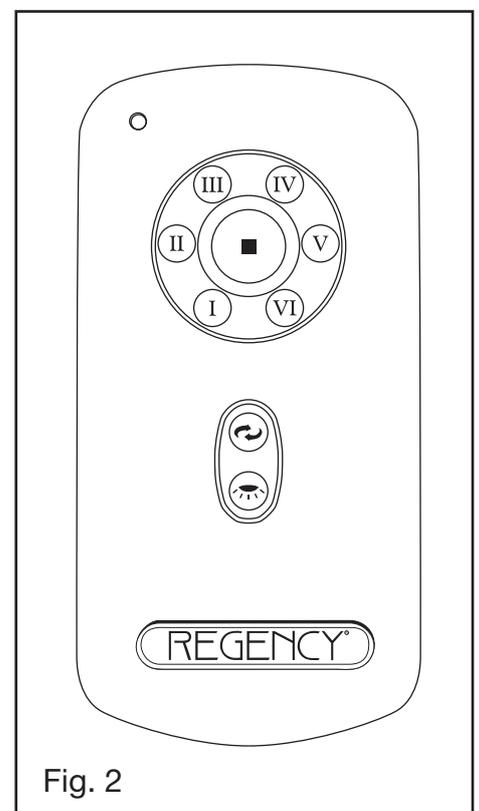

Fig. 2
4. Remove one of the three screws on the mounting plate located on the fan motor. Loosen the other 2 screws. (Do not remove) (Fig. 2)
5. While holding the LED light kit under your fan, make the polarized plug connections: (Fig. 2)
An UPWARD airflow moves warmer air off the ceiling area as shown in Figure 2. This allows you to set your heating unit on a cooler setting without affecting your comfort.